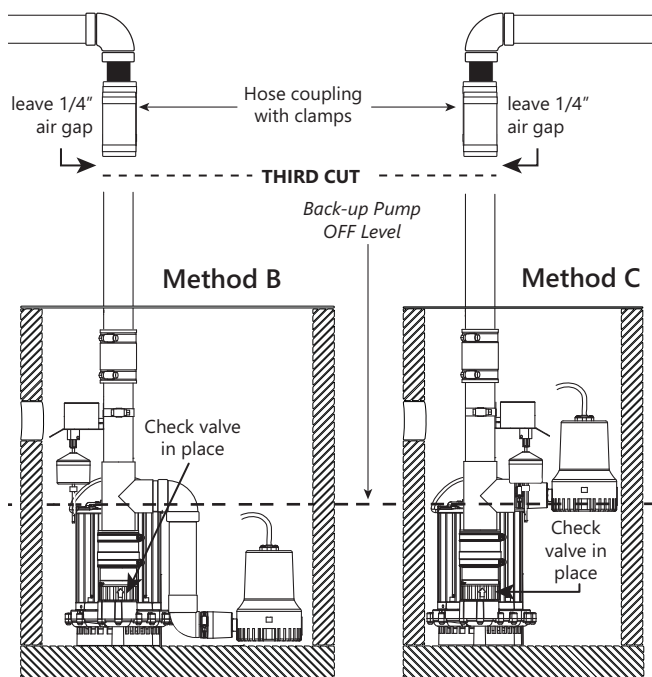

Figure 7. Remove Excess Discharge Pipe
3. Make the third cut as shown in Figure 7.